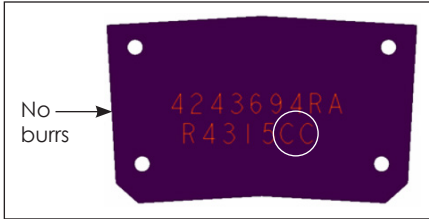
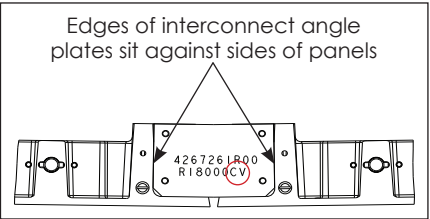
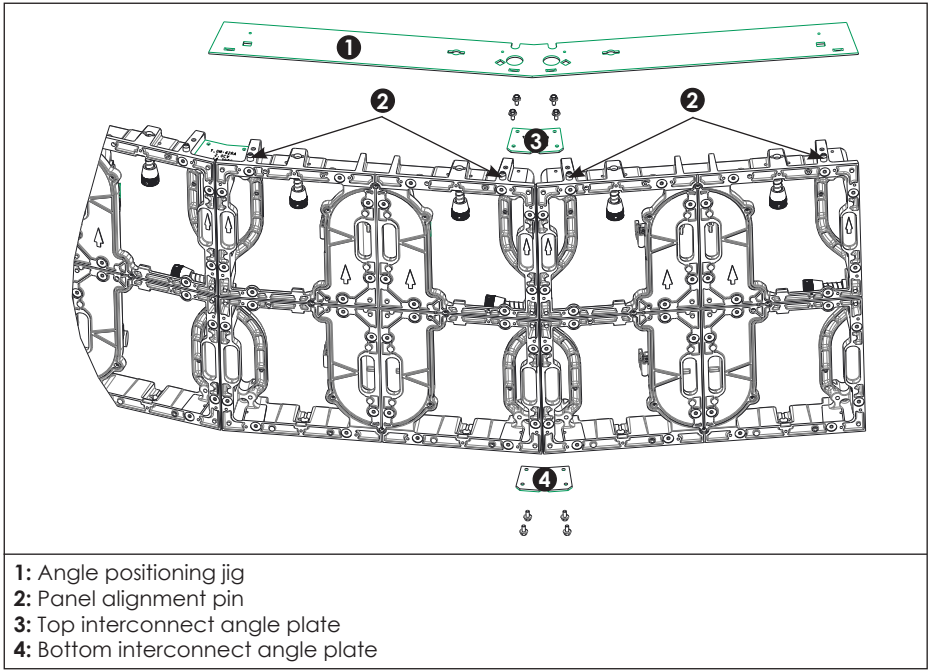

Figure 6: Interconnect Angle Plate
Figure 7: Install Interconnect Plates
Figure 8: Install Interconnect Plates & Angle Positioning Jig
3. Inspect the interconnect angle plates for burrs and use a file to remove any small burrs. Refer to **Figure 6**. Use four M5-0.8x10 mm hex-head screws per plate to install an interconnect angle plate on the top and bottom of the panels, leaving the screws finger-loose. Refer to **Figure 8**.
The interconnect angle plates are designed to sit tight against the mating machined surface of the panel. Each plate is etched to show if it is for a concave "CC" or convex "CV" display. Refer to **Figure 6** and **Figure 7**.
4. Install an angle positioning jig over the panel alignment pins on the panels. Refer to **Figure 8**.